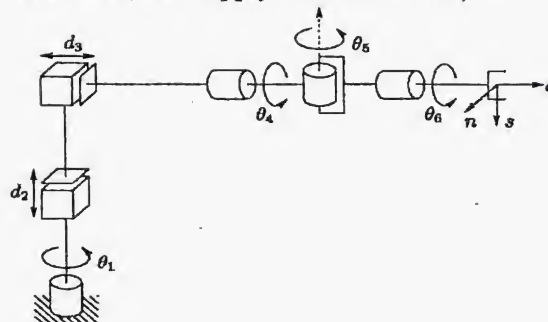

Figure 2
- For the Cylindrical manipulator shown in figure 2, Find the homogeneous transformation matrix describing the forward kinematics of the whole manipulator, i.e. the position and orientation of the end effector with respect to the base. (Hint: Apply DH-convention)